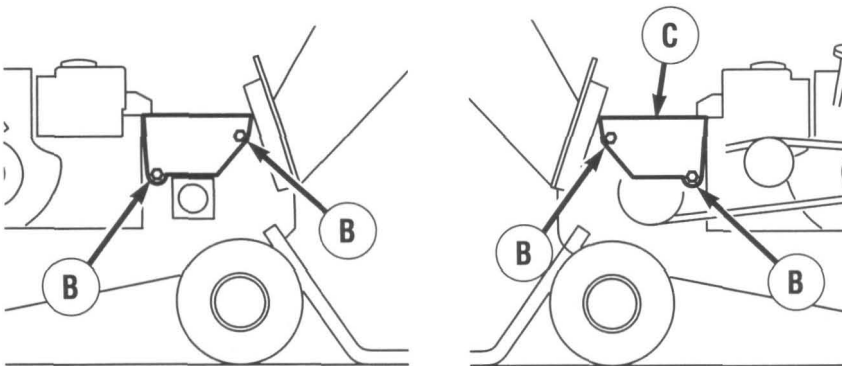
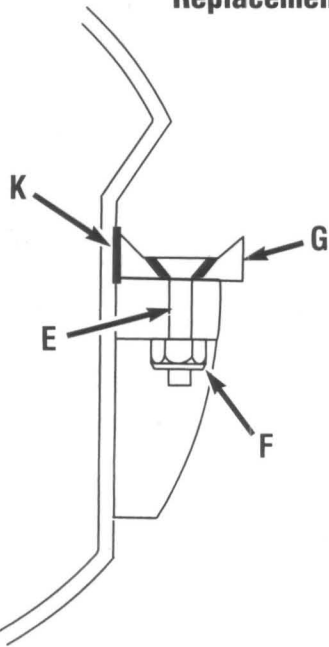

Fig. 3
Fig. 5
- Clean out the hex bolt holes (D, Fig. 3).
- With a 5/32" hex wrench and a 1/2" socket, remove the socket head screws (E) and nuts (F) securing the chipper knives (G) to the chipper drum.
- Carefully remove the chipper knives (G) from the unit.
- Position the new chipper knives (G, Fig. 3) in place into the chipper drum.
- Secure the chipper knives (G) with the new socket head screws (E) and nuts (F), supplied in the kit. Torque the bolts and nuts to 10-12 ft. lbs (14-16 Nm).
- Adjust the anvil (J, Fig.5) .010" – .040" (.25 – 1mm) away from the chipper knife cutting surfaces. Use a feeler gauge when measuring.
- Adjust the anvil at nuts (L, Fig.5). Tighten the nuts securely after adjusting.
- When adjusting the anvil (J), measure at both ends, to ensure the distance is equal all the way along the surfaces of the anvil and the knives.
- After adjustment, spin the chipper drum to check for interference between the chipper knives (G, Fig. 5) and the anvil (J).
- The anvil (J) can be reversed and turned over, when the edge becomes dull or rounded.